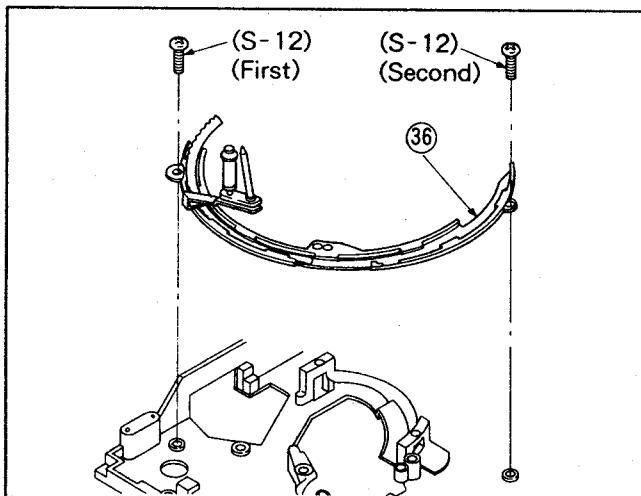

Fig. M18
40) Remove S rack guide assembly. See fig. M18.
- 6) Reinstall the S rack assembly. See Fig. M18.